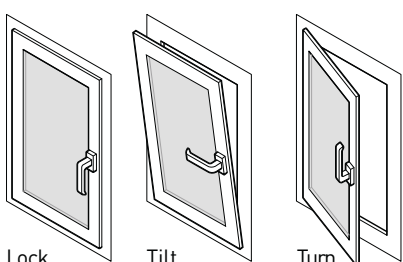

Figure 2-1. Handle Positions
- 2.1. Rotate the Euro-Handle to the Turn position. Partially open the sash. See fig. 2-1.